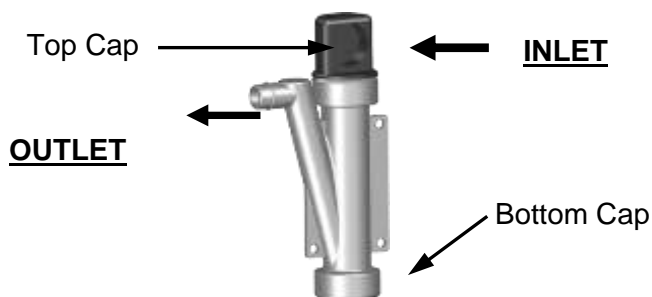

Figure 6.9: Condensate Trap P/N 99259
1. Disconnect the condensate trap by loosening and then removing connections on the inlet and outlet sides of the trap (see Figure 6.9).